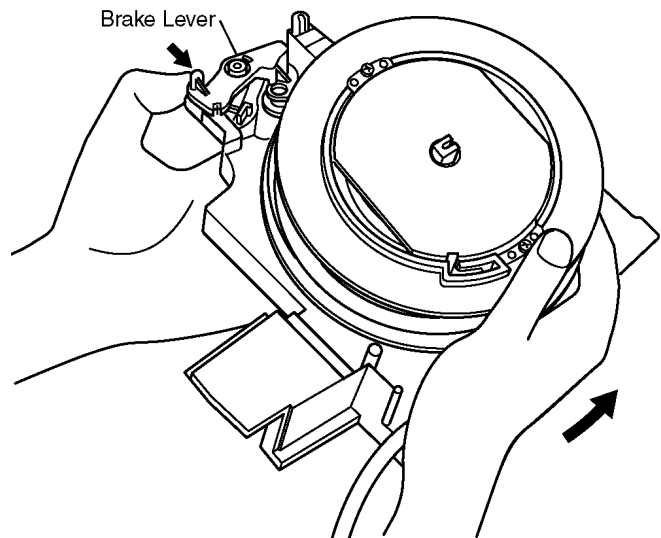

Fig.16
3. Push the brake lever, and release the pre-winding. (Fig.16)
2. Pro-wind the cord reel ass'y 5 or 6 times in the direction of the arrow (→) indicated on the cord reel cover. (Fig.16)